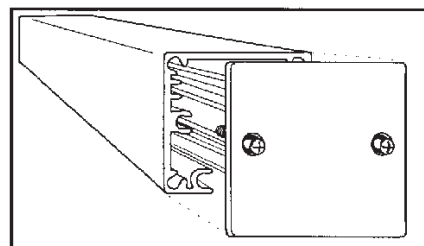

Fig. 2
Step 1. Remove one end cap from trim assembly and slide lampholder mounting plate out at least two inches. (See Fig. 2)